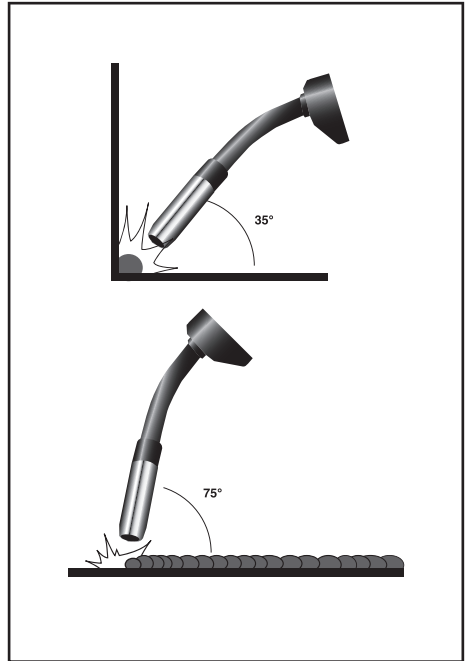

FIG.11
9.2 MIG WELDING PRINCIPLES FIG. 11